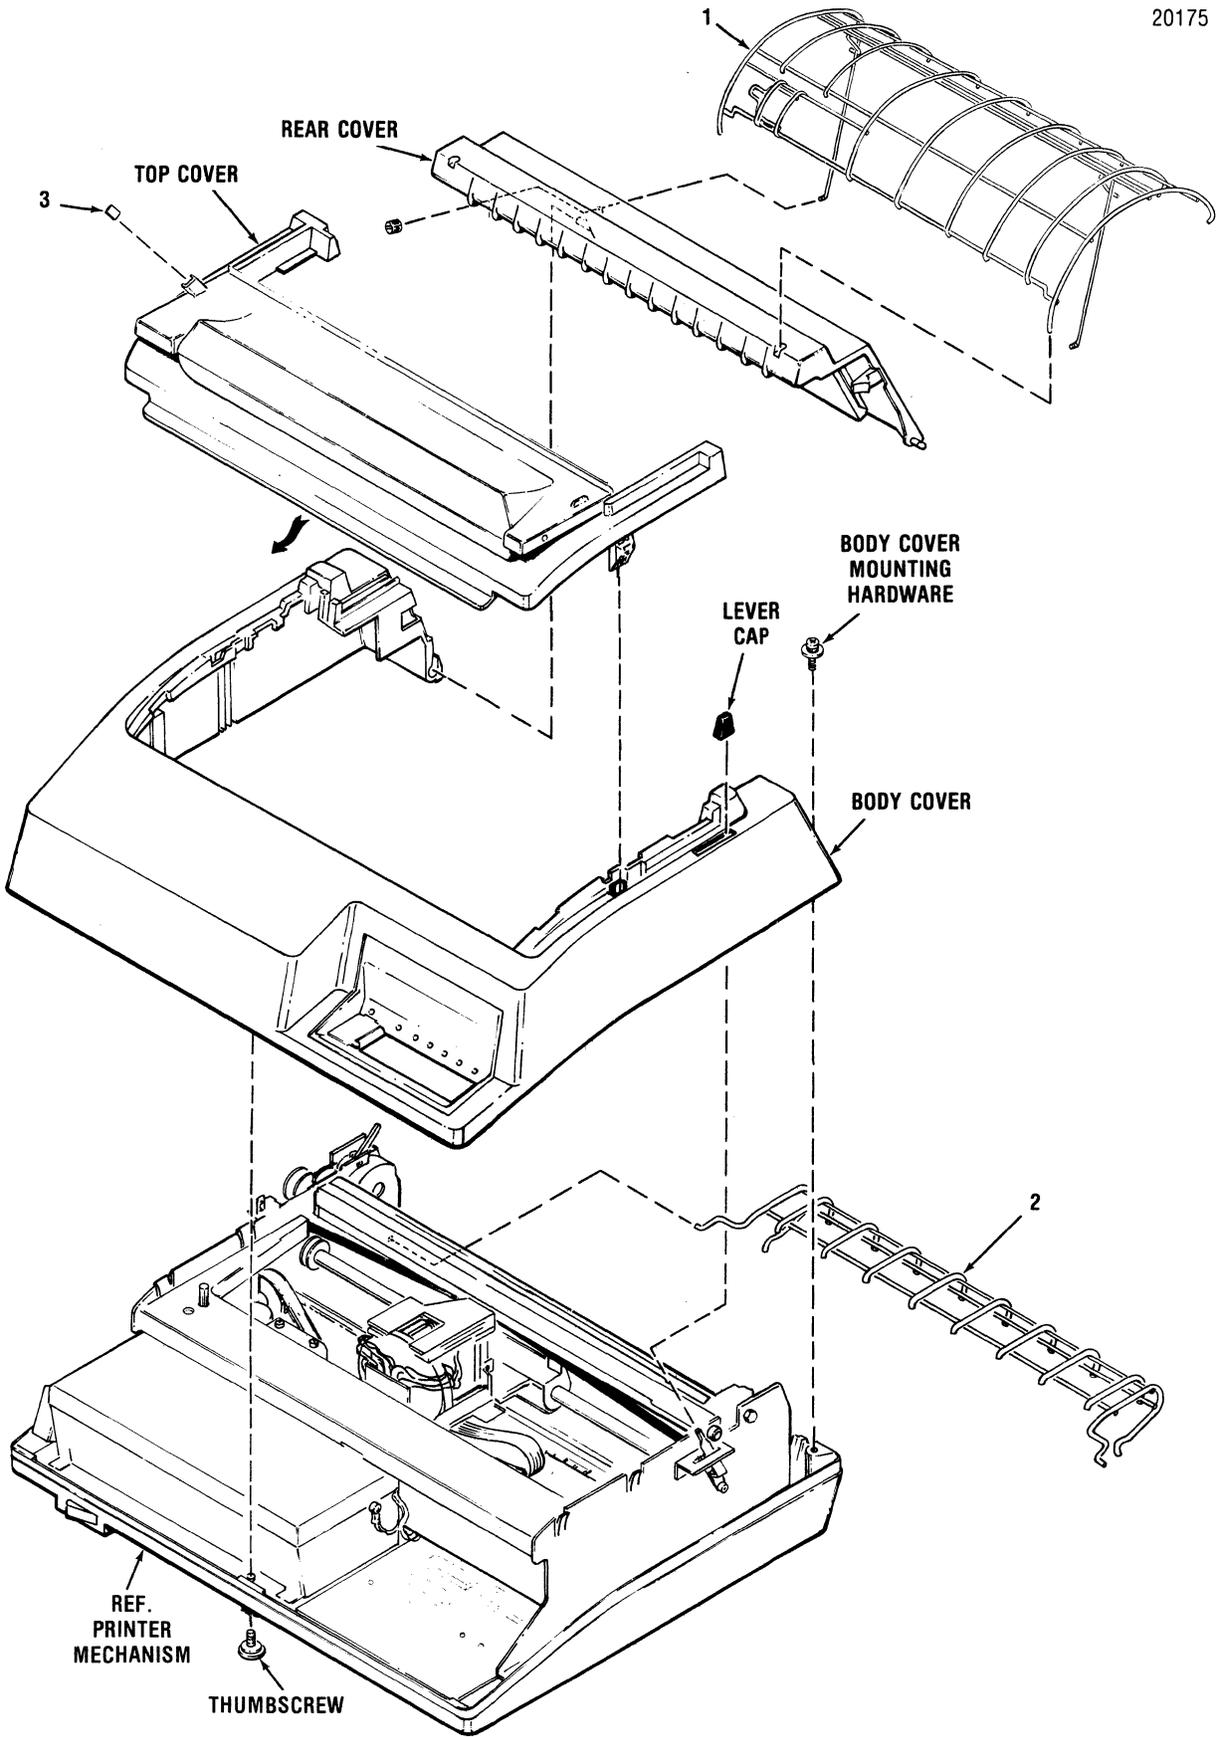

Figure 5-2 Removal/Replacement, Paper Outlet Rack Assy, Paper Inlet Rack, Cover Assemblies, and Cover Interlock Magnet
The covers, which protect the printer mechanism and pcbs, are removed using a Phillips head screwdriver. To remove the three different covers, refer to Figure 5-2 and perform the steps listed below.
The paper inlet rack, item 2 of Figure 5-2, attaches to the lower rear of the printer and guides the forms into the paper feed mechanism. To remove the inlet rack, refer to Figure 5-2 and perform the following steps:
2. Pull the inlet rack (2) straight out, and then away from the printer.
The paper outlet rack assembly, item 1 of Figure 5-2, attaches to the rear cover and guides the printed forms over the printer and into the paper basket. To remove the outlet rack assembly, refer to Figure 5-2 and perform the following steps:
3. Pull the outlet rack (1) out of the mounting holes on the top of the rear cover.
The cover interlock magnet, item 3 of Figure 5-2, is located in a slot on the underside of the clear cover. The purpose of the magnet is to disable the Hall effect interlock switch when the cover is closed, and to enable the switch when the cover is open. To replace the magnet, refer to Figure 5-2 and perform the following steps:
1. Place the clear cover in the open position, as shown in Figure 5-2.
2. Place the magnet (3) into the slot.
9. Place a small amount of adhesive onto the side of the magnet (3).